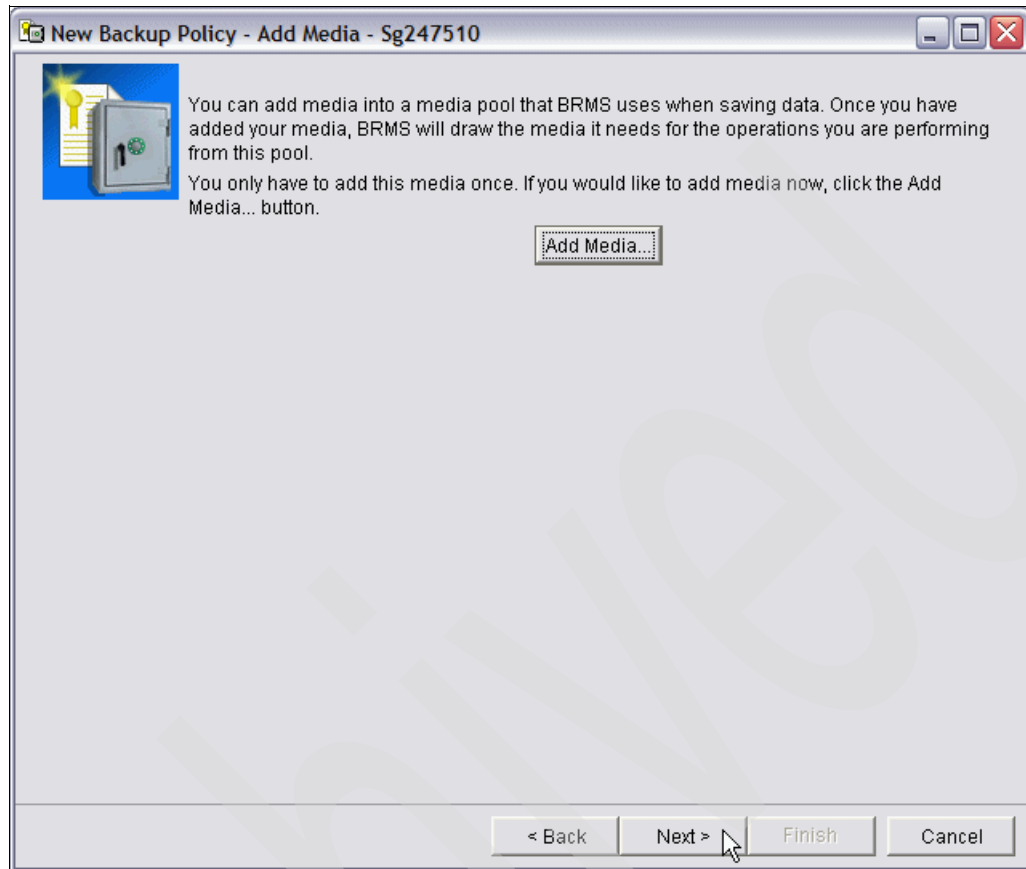

Figure 6-65 New backup Policy - Add Media
23. This opens the Add Media window shown in Figure 6-65.